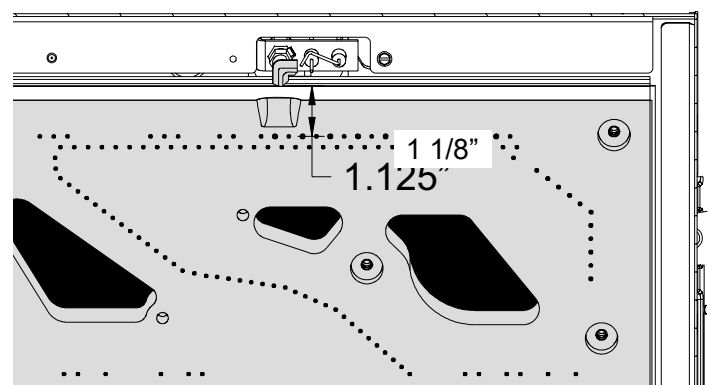

Figure 7.6. Burner and pilot location.
**9. Replace the Burner.** Tilt the burner assembly downward to engage the venturi tube with air shutter assembly. The front burner supports must engage with the studs at the front of the firebox. **BE CERTAIN THE BURNER IS LEVEL AND SECURELY ENGAGED WITH THE FIREBOX FLOOR.** When properly positioned, the pilot carry-over porting will be 1 1/8" (28mm) from the pilot head. Fig. 7.6.